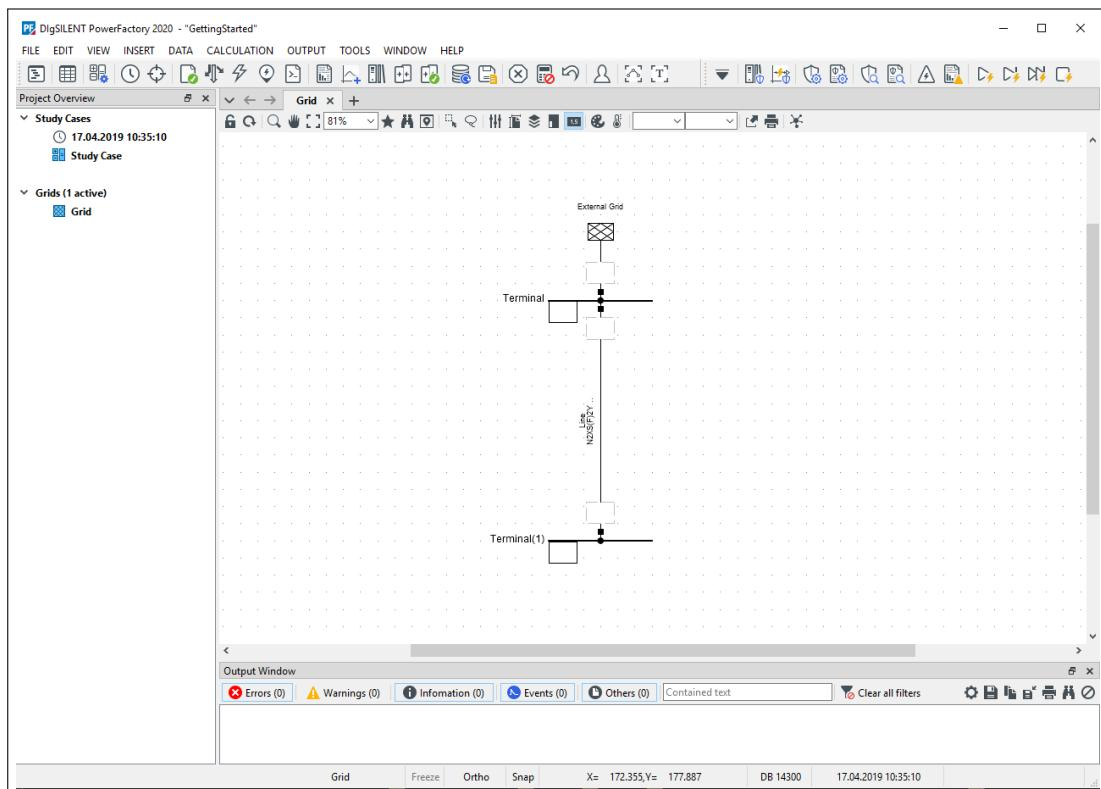

Figure 24.13.8: Grid
- draw a simple grid with two terminals (*ElmTerm*) connected by a line (*ElmLine*) as shown in Figure 24.13.8.